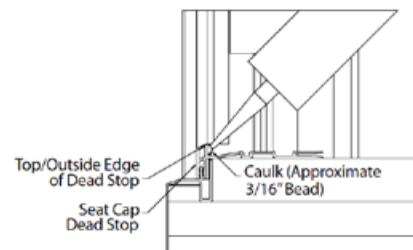

Figure C3
7. The last dead stop surface that will need sealed is located on the seat cap. Apply a moderate (3/16") bead of caulk across the seat dead stop using the top/outside edge as a guide (**Figure C3**)